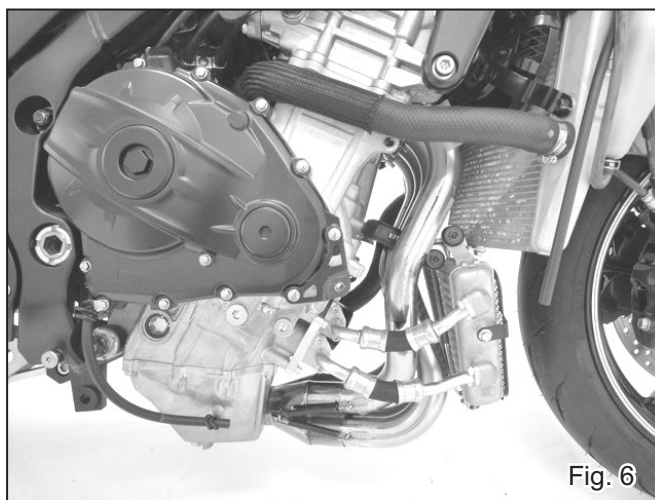

Fig. 6
- 14) Replace exhaust gaskets on all the exhaust ports with new ones and mount header assy (assembled at Step. 12) to exhaust ports and fix it with 8 of stock bolt (See Fig. 6 & 7). Tighten bolts by hand only at this stage.